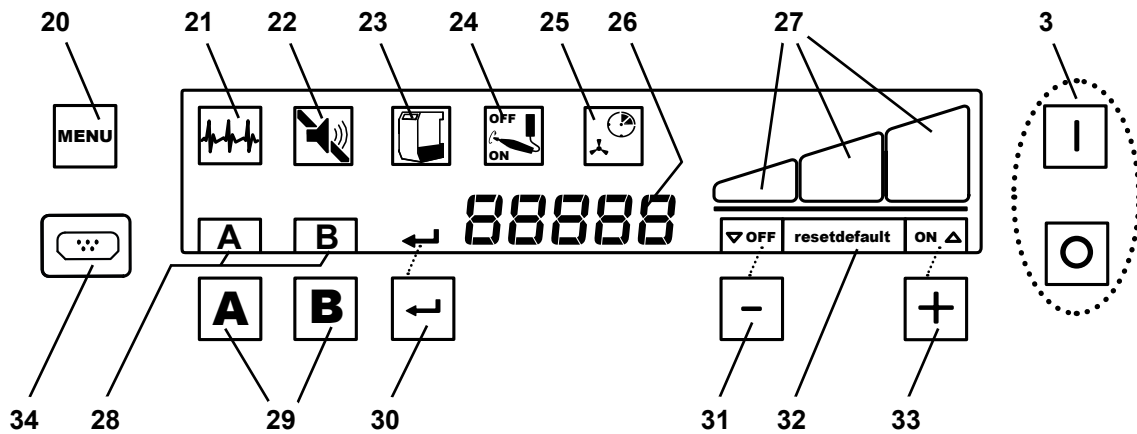

Fig. 2
- ⇒ Switch the device off at the on / off switch (3, Fig. 2).